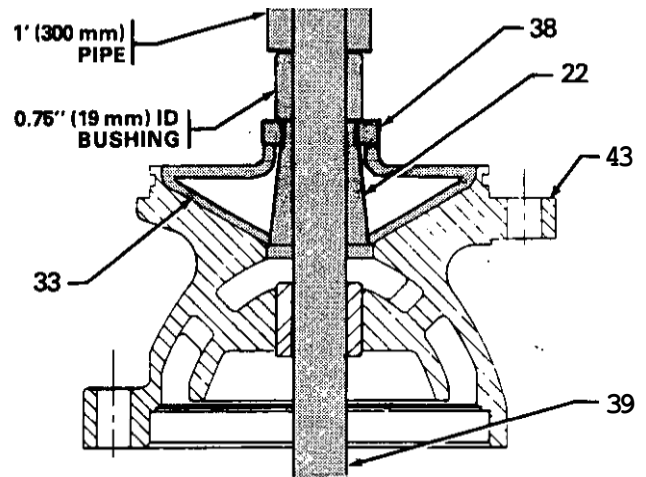
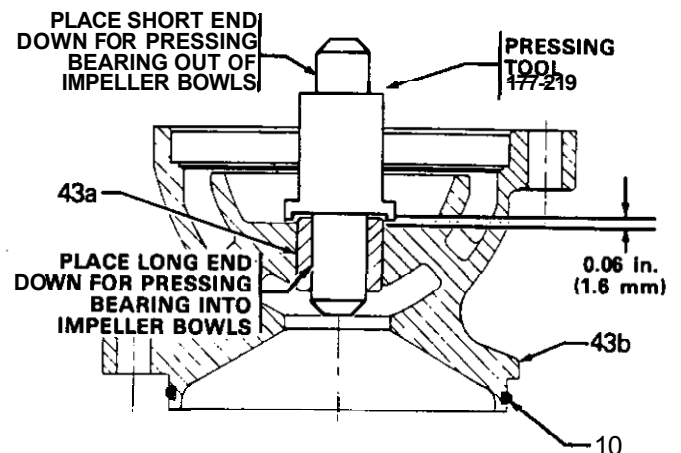

Fig 8
Fig 9
20. If the pump is mounted in an assembly stand, loosen the **shaft holding tool**. See Fig 9, page 9. Turn the bearing adjusting nut (42) seven notches to the right to raise the impellers off the bowls. Now turn the pump coupler (54) to be sure the shaft rotates freely. Check to see that the slinger is located approximately in the center of the slinger chamber.
- b. Place a soft steel protecting bushing (0.75 in/19 mm) ID with a smooth turned end, on top of the hex nut. Use a sharp downward blow with a 1 foot (300 mm) length of pipe or tube over the shaft to loosen the collet (22). See Fig 8.
- c. Remove the collet and impeller (33). Do not pry on the impeller.
6. Inspect the shaft for signs of scoring or wear and replace it, if needed. Check all bowls and impellers for wear or damage and replace as needed. Install new O-rings (10) on all impeller bowls and the intake bowl, then lubricate the O-rings in place. Be sure the impeller nuts (38) rotate freely on the collets.
- a. Use the short-nippled end of tool 177-219 to press out the bearings (43a, 44a) from all bowls (43b) and the intake bowl (44). See Fig 9.
- b. Use the long-nippled end of the tool to press new bearings into the bowls. This tool maintains the required 0.06 in. (1.6 mm) dimensions of the impeller bowls as shown in Fig 9.